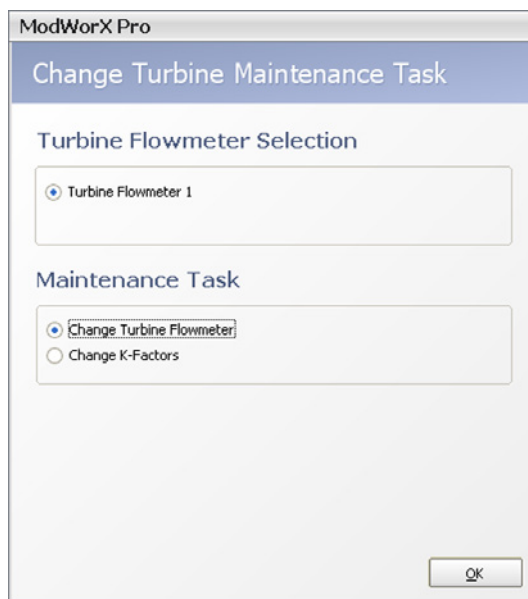

Figure 13.7
1. If Change K-Factor is not displayed in the Maintenance Task field at the top of the Maintain Turbine screen, click on **Change Task**. The Change Turbine Maintenance Task dialog will appear (Figure 13.7, page 187).